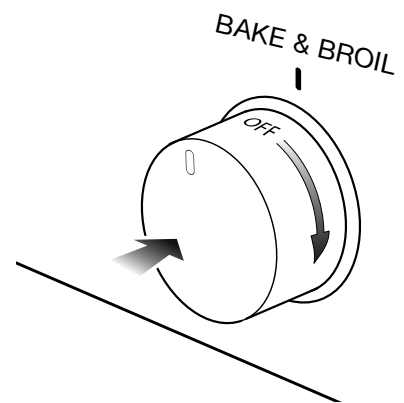

Fig. 3.5 Oven control knob
- 2) Press the oven control knob right down (the igniters will start 'clicking'), turn the knob clockwise (fig. 3.5) to the BROIL position.